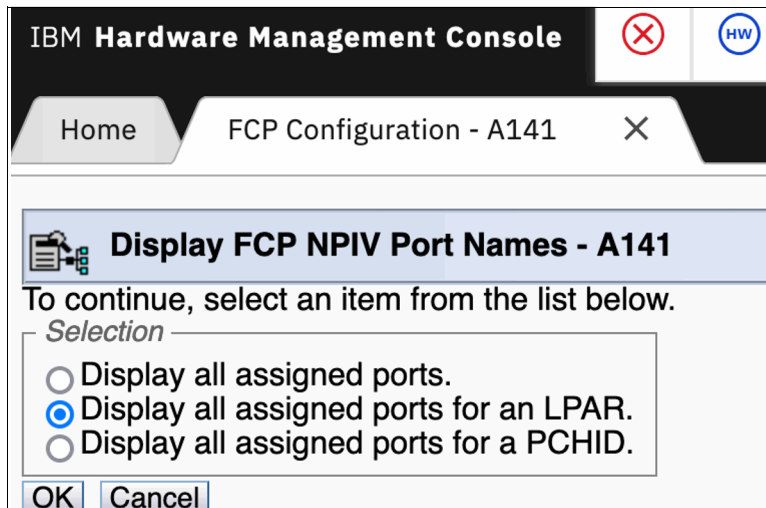

Figure 30 Set the option to Display all assigned ports for an LPAR
5. In the Display FCP NPIV Port Names menu, select **Display all assigned ports for an LPAR** and click **OK** (Figure 30 on page 22).